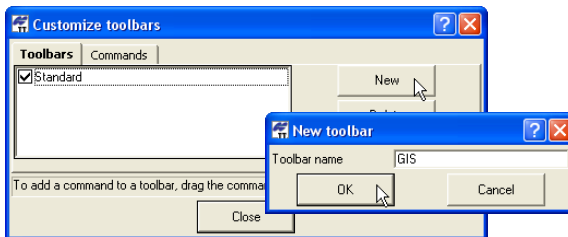

Figure 1-19. Add New Toolbar
2. Click **New** to add a new toolbar to the main window. Name the toolbar and click **OK** (Figure 1-19).